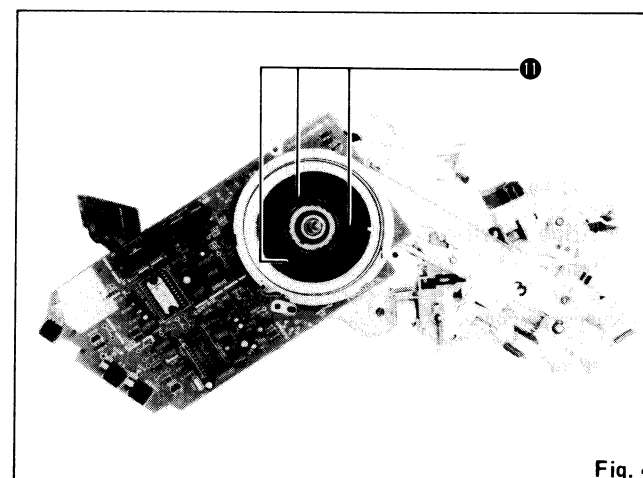

Fig. 4
3. Remove 3 setscrews ① of the stator frame cover, (See Fig. 4)